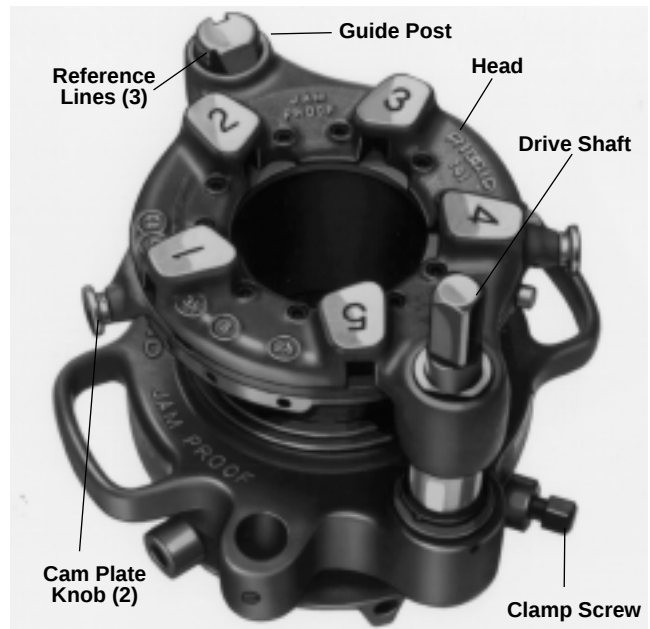

Figure 13 – No. 141 Geared Threader with Drive Shaft Up (No. 161 Threader Similar).
2. Pull knobs (*Figure 13*) of cam plate and rotate cam plate to desired pipe size marking on top of die head. Release knobs when locating pins drop into hole in selector plate.
Grasp workholder and turn square end of drive shaft or turn gear case by hand to respective reference lines on guide post (*Figure 13*).
2. Pull Knobs (*Figure 13*) and rotate cam plate to CD mark on top of die head.
8. Using socket wrench, tighten workholder clamp screw (*Figure 13*) securely.
9. Slip square socket of No. 840A Universal Drive Shaft over square end of threader drive shaft and tighten two (2) set screws.
141 and 161 – Step on foot switch and reverse threader one or two revolutions. Pull knobs (Figure 13) and rotate cam plate as far as it will go towards CD mark on head to disengage dies.
141 and 161 – Loosen jaw clamp screw (Figure 13) and turn workholder to OPEN position. Remove threader.